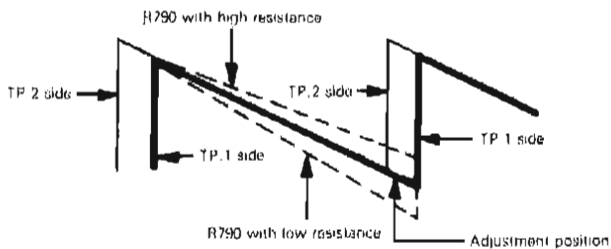

Fig. 32
- (4) Connect an oscilloscope to TP.1 (Q704 emitter) and TP.2 (Q712 emitter). Connect the GND to pin ⑩. Set the TP.1 oscilloscope vertical sensitivity to about 0.5 V/cm and the TP.2 oscilloscope vertical sensitivity to about 1 V/cm, and set the TP.1 and TP.2 sensitivity difference accurately to 1 : 2. Set the oscilloscope's horizontal sensitivity to about 2 ms/cm.
- (5) Turn the unit over and return it to its former position.
- (6) Disengage the tone arm from the arm rest (and supply an output signal which causes the platter to rotate). Saw-toothed wave signals are generated at TP 2. Adjust the vertical waveform position of TP.1 with the oscilloscope, rotate semi-fixed resistor R790, and adjust so that the slant of the TP.1 waveforms is made the same as that of the TP.2 waveforms. (Fig. 32)
- (7) After this adjustment, detach the 100 kohm resistance and the lead, and return to the former state.